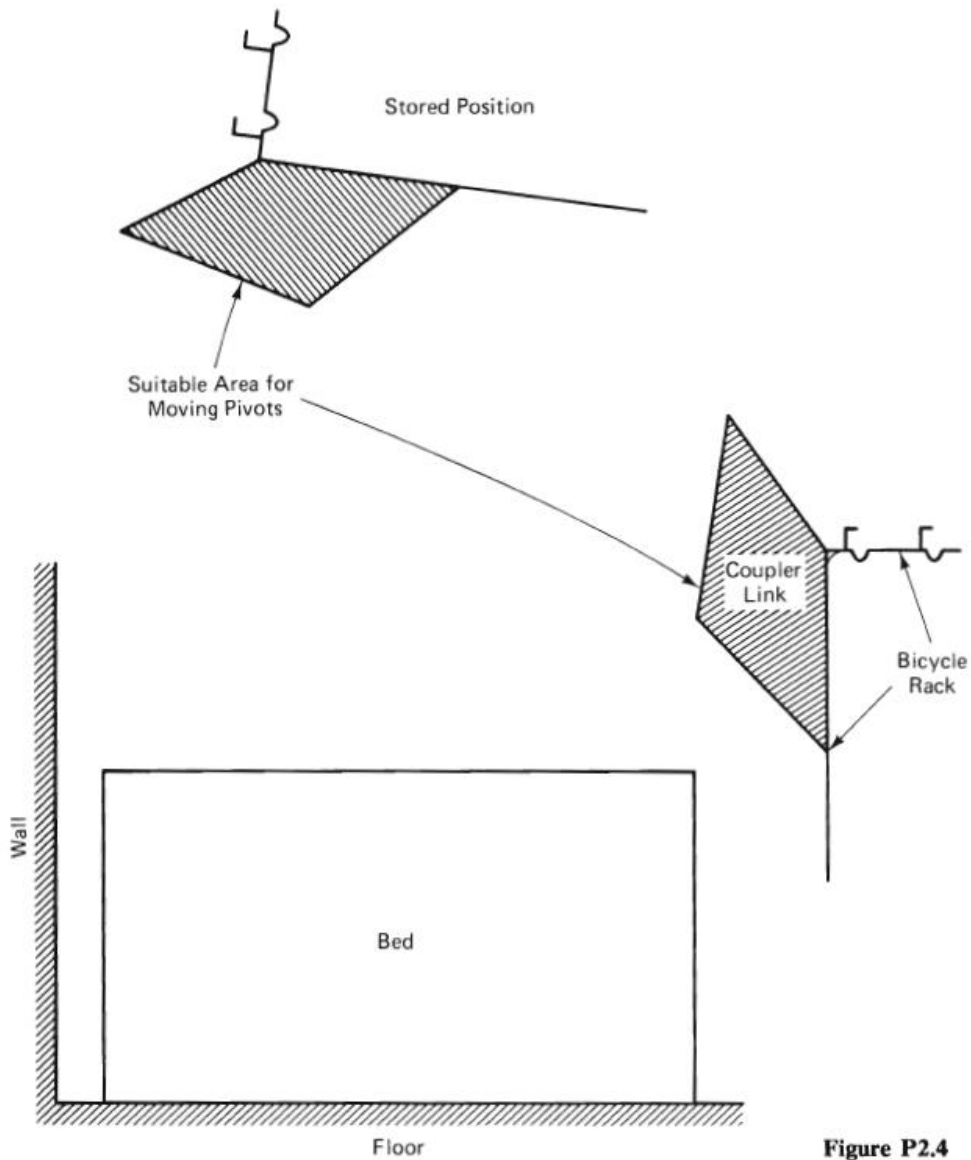

Figure P2.4
- 2.13.** A student wishes to design a four-bar linkage that will store a bicycle above his bed. Two positions of the storage rack are shown in Fig. P2.4. Find acceptable ground and moving pivots for this design objective.